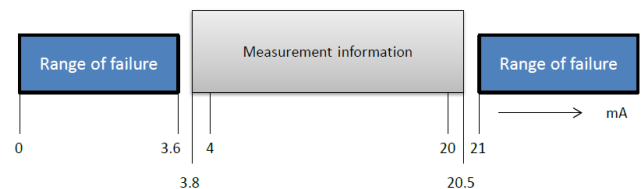

Figure 7.8 — NAMUR NE-43 Diagnostic Fault Range
Use a mA meter to measure the output current. When power is applied, the output should go to 4.00 mA for at least one (1) second and then to either the measured level or an alarm condition output. If this does not occur, the transmitter may not be receiving enough power or the main electronic is defective. Excessive current of about 21 mA is also an indication of improper power-up or defective electronics (see Figure 7.8).